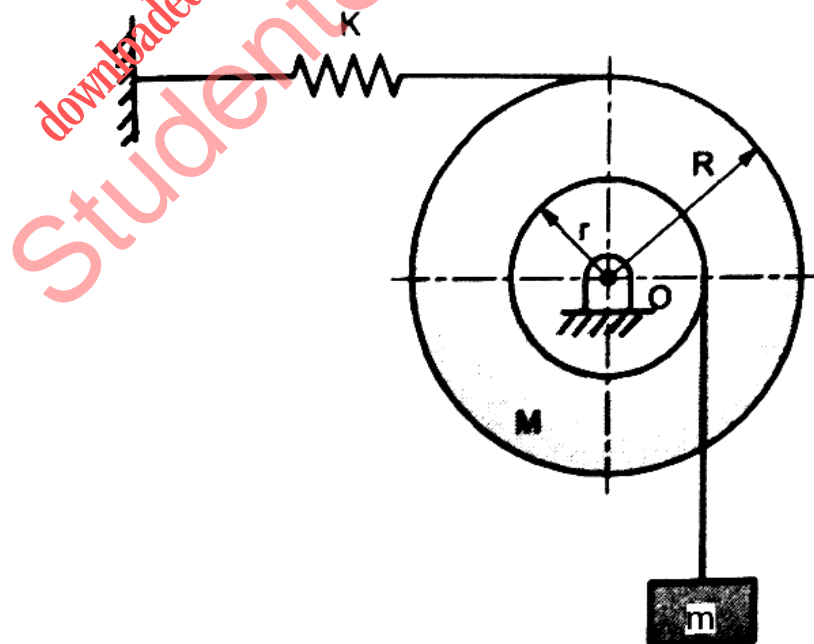

Fig.1
- Q.5 (a)** Find the natural frequency of a system shown in fig.1, Take $K=1000$ N/m, $M=10$ kg, $m=2$ kg, $R=50$ mm and $r=30$ mm **07**